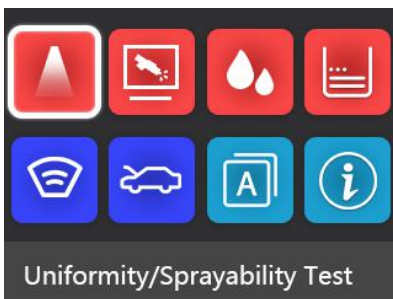

Figure 5.2
- 5) As shown below: select [Uniformity / Sprayability test] on the main interface, pressure as shown in Figure 5.2; set corresponding operating parameters, as shown in Figure 5.3; press [Run] button (Note: press [Drain] button during the operation to drain or stop draining oil); the system pressure can be adjusted by [Pressurization] and [Depressurization] buttons on the control panel, as shown in Figure 5.4.